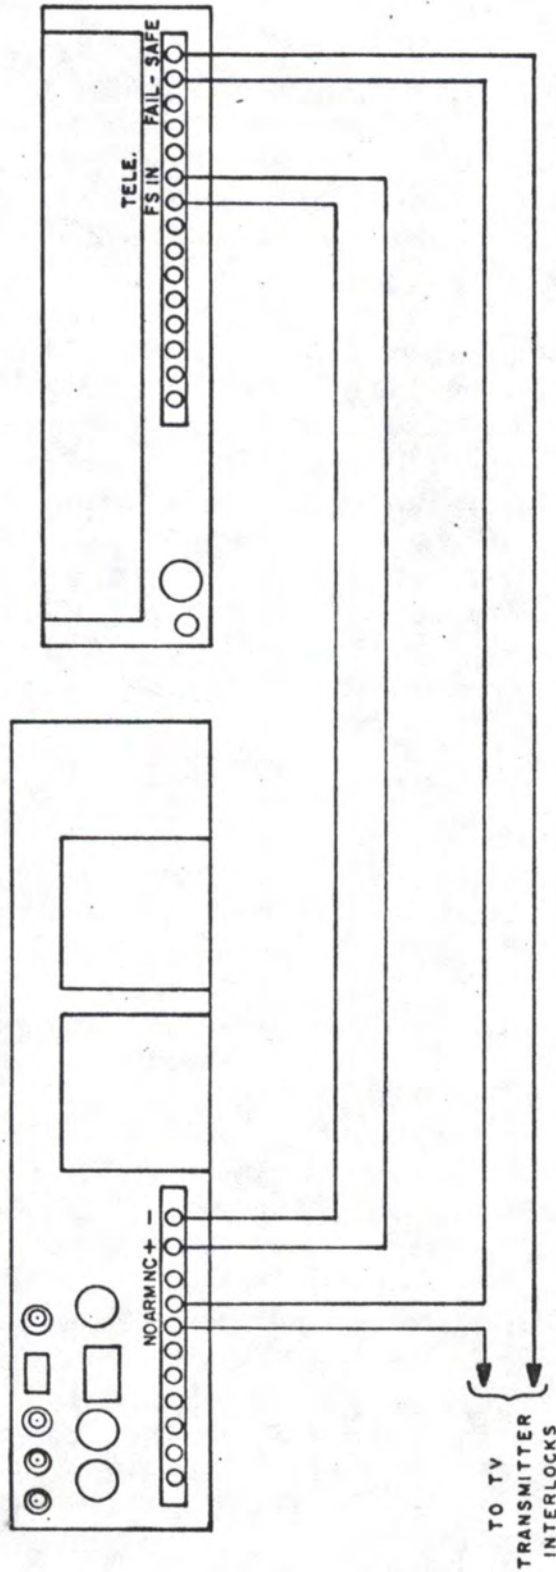

FIGURE 14 - REMOTE TERMINAL FAIL-SAFE CONNECTION
Referring to Figure 14, the control fail-safe outputs are in the form of single-pole, double-throw relay contacts labeled NO, ARM, and NC. When the control system is operational, the internal fail-safe relay is energized, and the normally open contact (NO) is closed to the ARM terminal. When a failure occurs, the NO contact opens and the NC contact closes. The same result occurs if power fails within the DRS-1A Remote Terminal. Note that the terms "normally open" and "normally closed" refer to the contact when the relay is de-energized (when there is a control failure).
Terminal. The "-" terminal is connected to the collector of a 30V, 300 ma transistor which is driven by the metering fail-safe logic. When the system is functional, the "-" terminal is pulled to ground (the transistor is on). When a failure occurs, the transistor is turned off causing the "-" terminal to float. An external relay or an FSU-1 Metering Fail-Safe Unit may be connected to these terminals as shown in Figure 14.